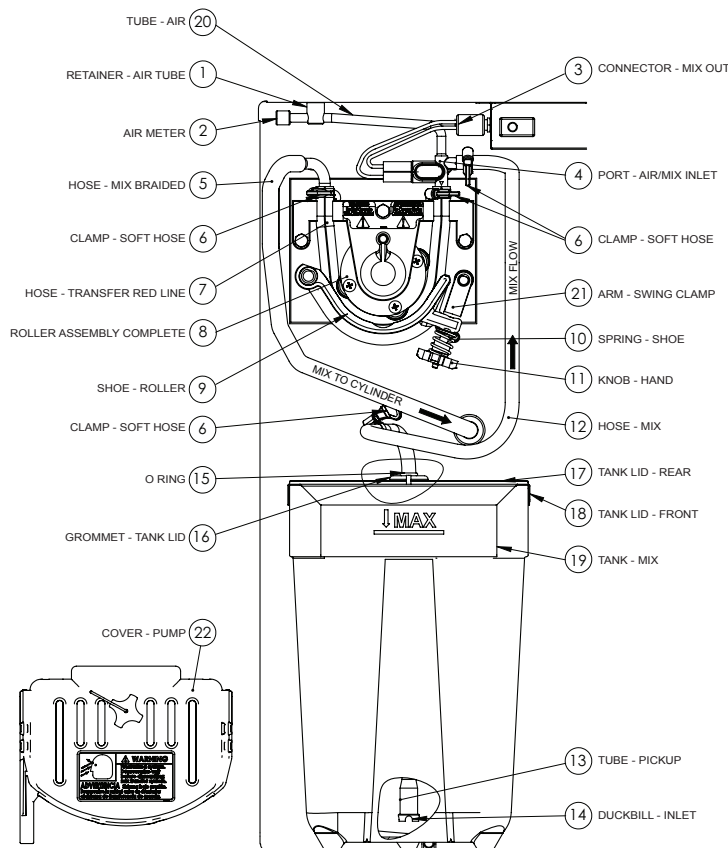

Figure 10-1 (LEFT SIDE*)
3. In the cabinet below (see figure 10-1). Disconnect the mix probe cords from the back of the cabinet.